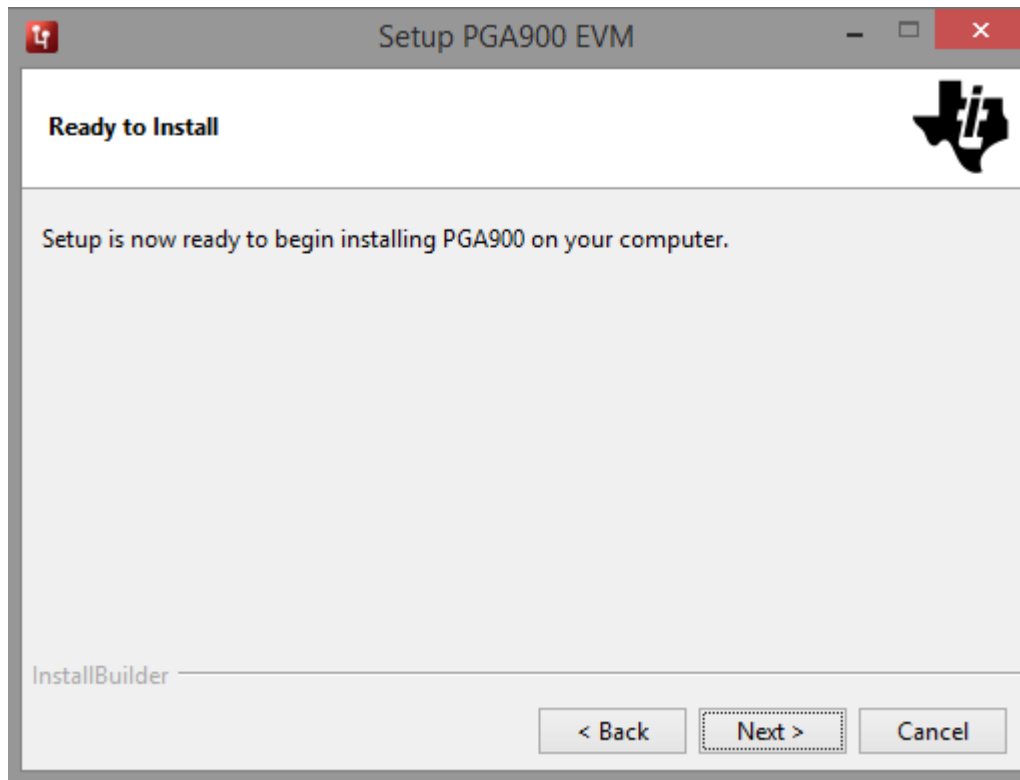

Figure 1-7. Start Installation
4. A screen as shown in Figure 1-7 appears. Click **Next >** to begin installation.